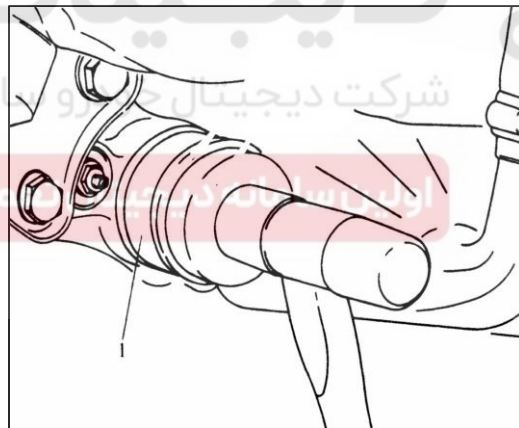

Figure 4-31 Install Retaining Ring
(2) As indicated in Figure 4-31, use the special service tool to properly install the retaining ring 1 on the rear axle tube.